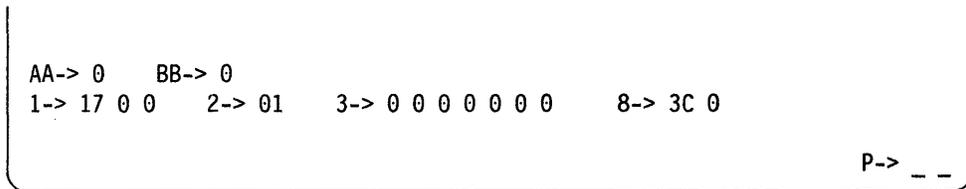

Figure 3-16. Address in Second Dash Position
- i. Press the Cursor Up key until this address appears in the position of the second dash beside Field 1 on the display screen (see Figure 3-16).